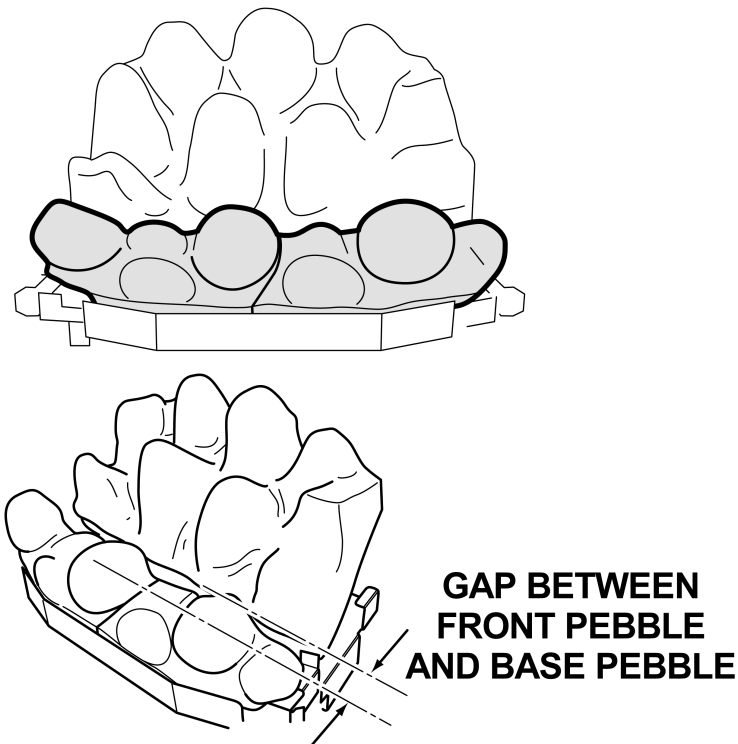

Figure 25. Front Pebble Location
3. Place the left-hand ceramic front pebbles in position in front of the base pebbles (See figure 25).
4. Place the right hand ceramic front pebbles in position in front of the base pebbles. This should join with the left-hand pebbles. Push the two sides together to minimise the gap. (See figure 25).
5. There will be a gap between the rear of the front pebbles and the front of the base pebbles. (See figure 25).